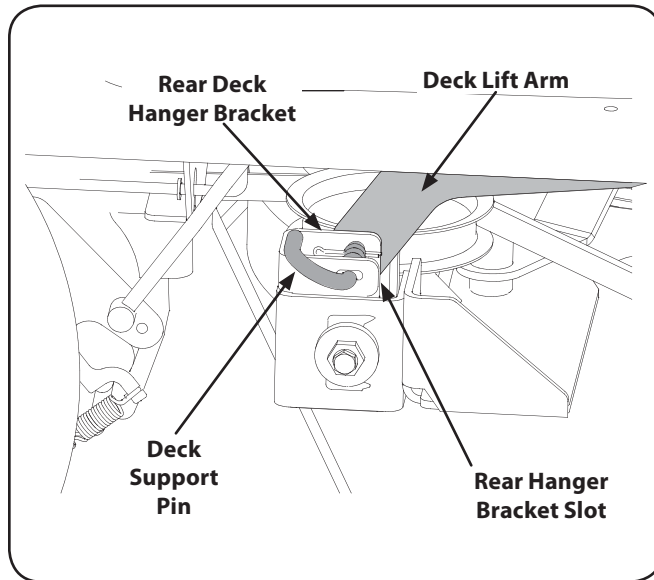

Figure 7-6
6. Locate the LH and RH deck support pins on each side of the deck. Pull the deck support pins outward and lock in the disengaged position to release the deck from the tractor's LH and RH deck lift arms. Refer to Figure 7-6.
7. Raise the deck lift arms out of the rear hanger bracket slots by raising the deck lift handle on the tractor to its highest position. Refer to Figure 7-6.
4. Maneuver the deck so that the slots in the two rear deck hanger brackets approximately align with the deck lift arms of the tractor. Refer to Figure 7-6.
6. Pull the deck support pins outward and maneuver the deck as necessary to align the holes in the deck lift arms with the pins. Refer to Figure 7-6.